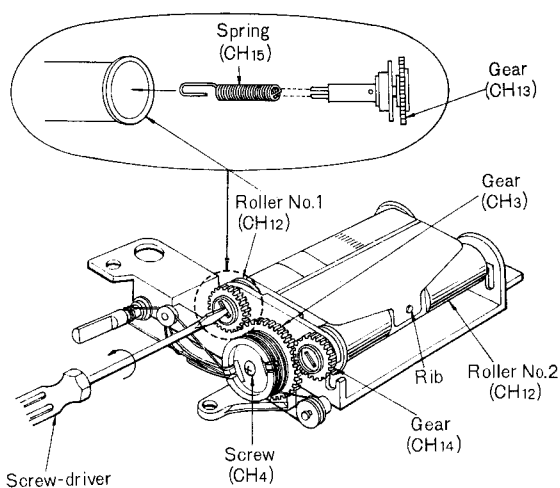

Fig. 3
1. Insert the gear (the gear not attached to the shaft) and the spring into roller no. 1, as shown in fig. 3.
2. Fully wrap the dial scale around roller no. 1, as shown in fig. 3.
3. Insert the dial scale into rib of roller no. 2, as shown in fig. 3.
4. Loosen the dial drum screw, as shown in fig. 3.
5. Using a screw-driver, as shown in fig. 3, slightly move the gear of roller no. 1 so that the gear disengages from the center gear, turn three times in the direction of the arrow (being sure to secure roller no. 1 so as to prevent it from also turning), and then engage the gear with the center gear once again.
8. Tighten the dial drum screws, as shown in fig. 3.
- 3. Loosen the dial drum screw, as shown in fig. 3.
- 9. Tighten the dial drum screw, as shown in fig. 3.